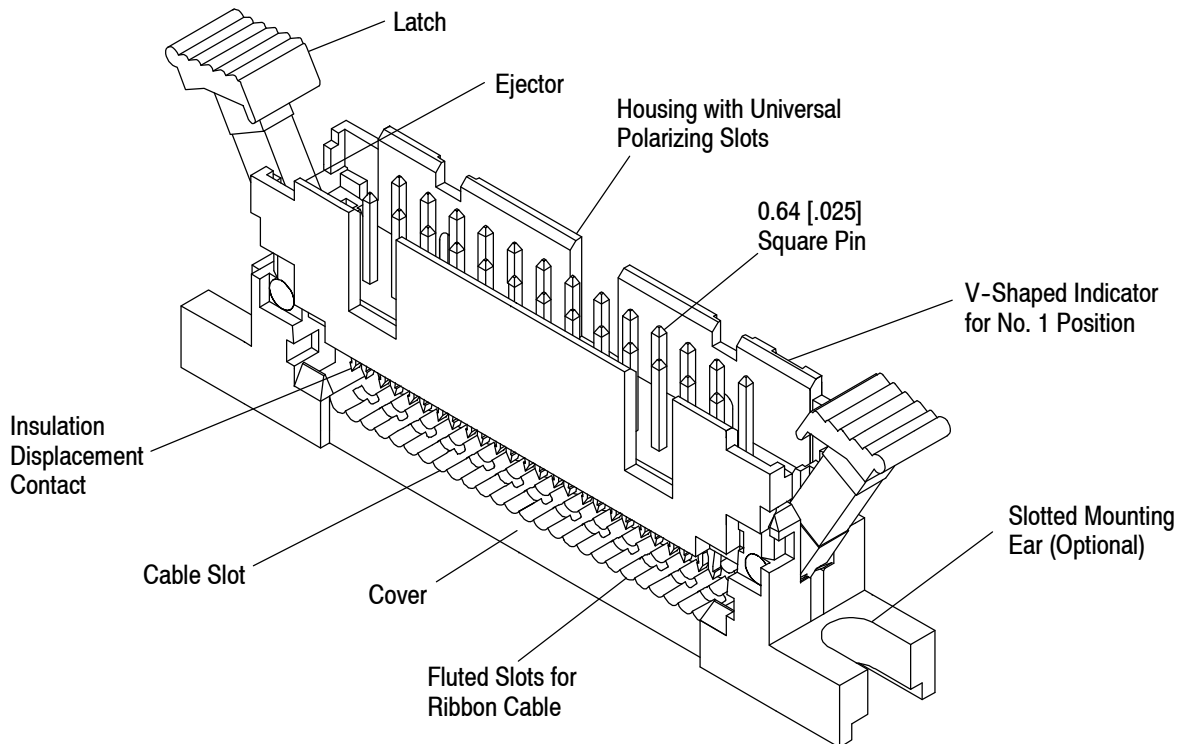

Figure 1
Figure 1 provides contact features and terms used throughout this specification. Use these terms when corresponding with TE Connectivity (TE) Representatives to facilitate assistance.